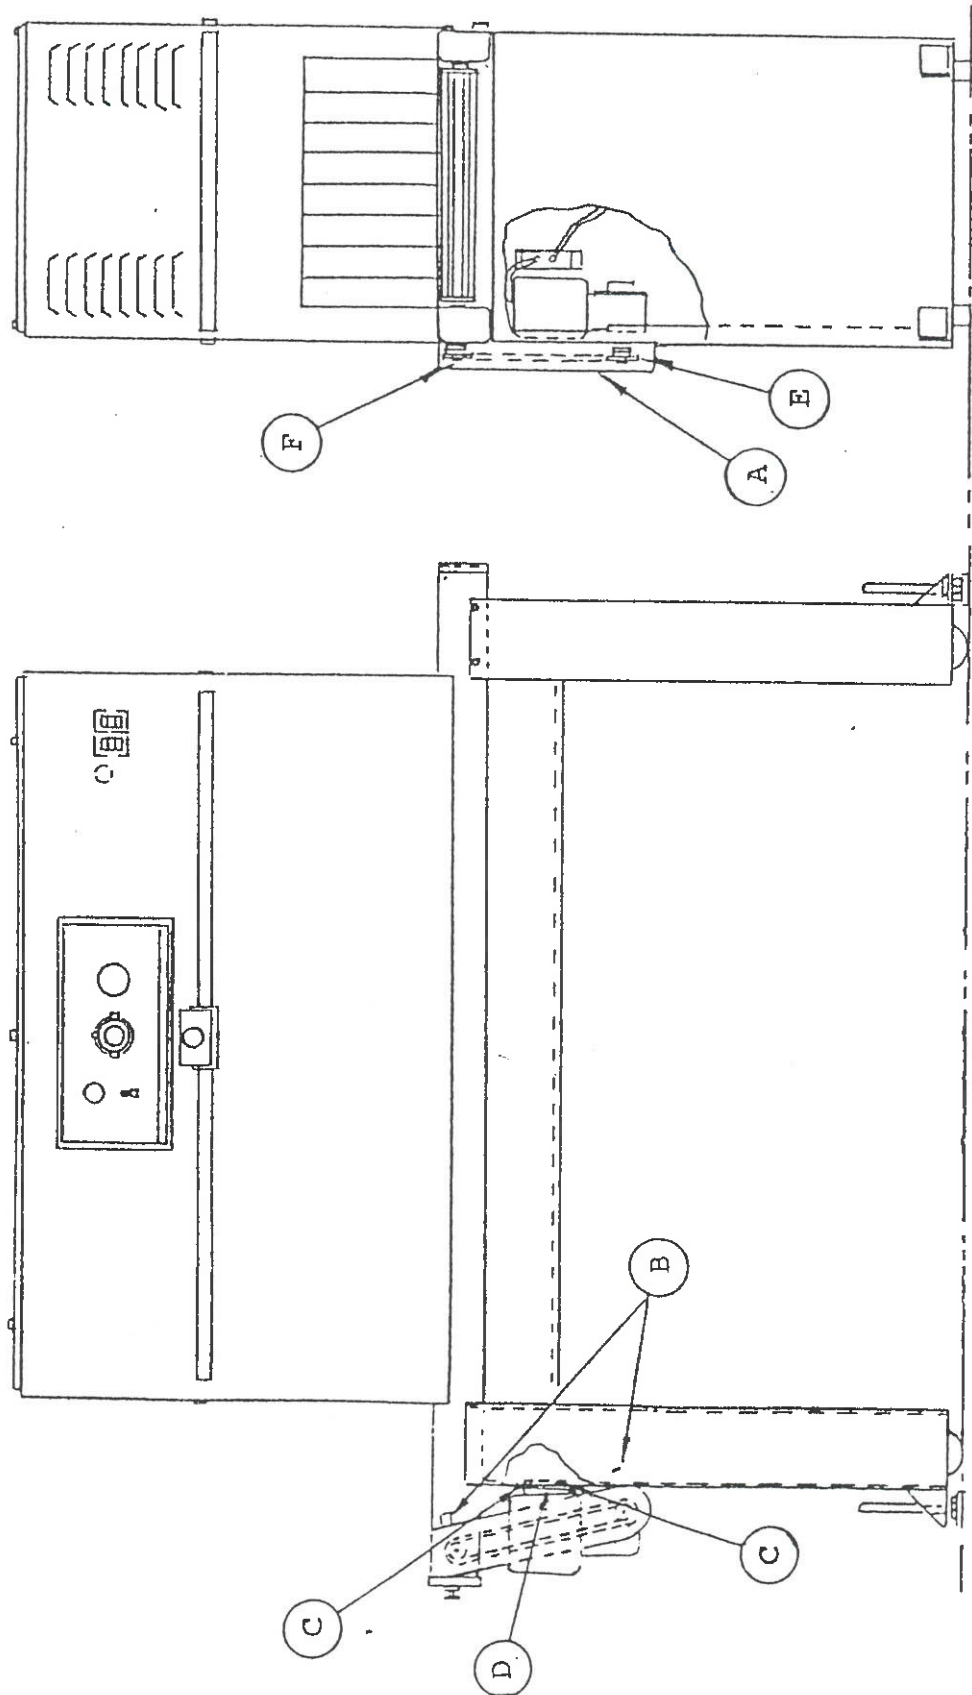

FIGURE 4-3. REPLACEMENT OF CONVEYOR DRIVE CHAIN & SPROCKET
- b. Remove chain guard "A" (Refer to Figure 4-3) by removing its mounting screws "B".